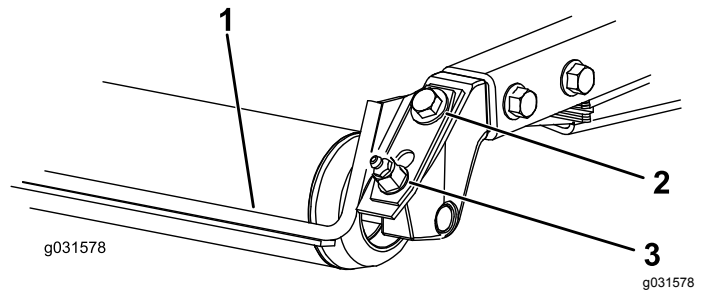

Figure 8
- Loosen the grease fitting and the mounting screw (Figure 8).